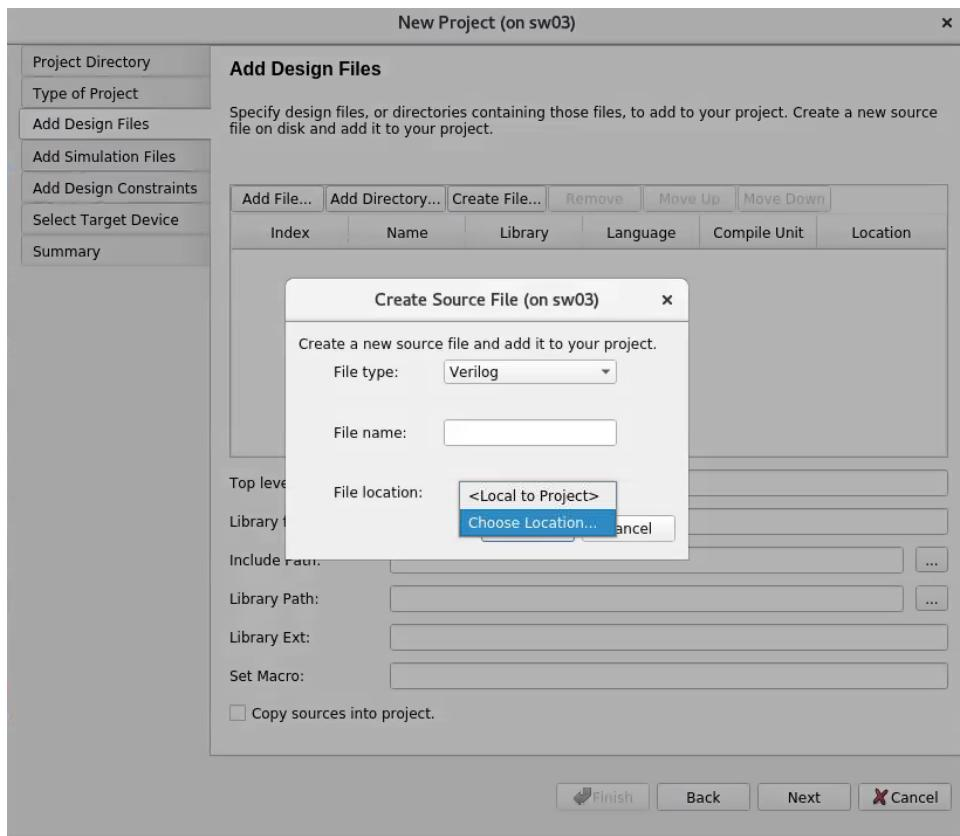

Figure 13. Create a Source File
4. Create a source file with supported file type as shown in Figure 13.